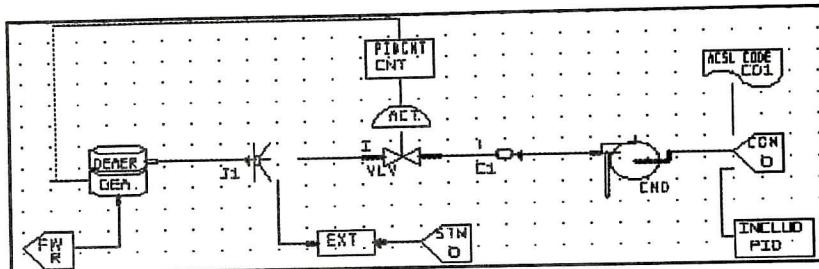

Figure 3
**M**MS-EASE+ users usually build control systems on the same diagram as the fluid systems. For example, in the standard model for the Deaerator Level Control System (DEALCS), the controls are made from the PID controller and ACSL CODE icons as shown in figure 3: